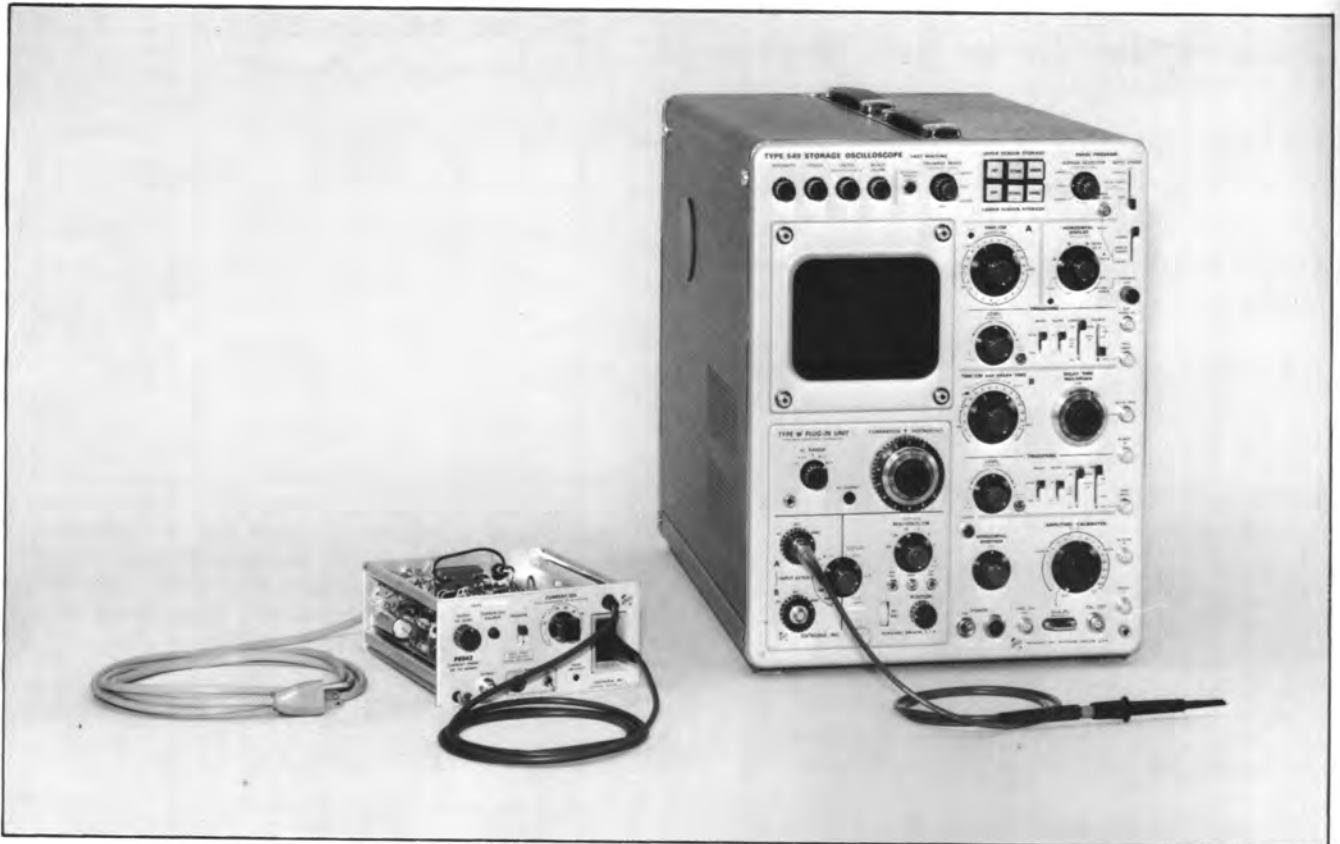

Fig. 6-2. Preliminary test setup.
4. Place the differential comparator plug-in unit in the storage oscilloscope. Connect the 1× probe to the Channel A input. See Fig. 6-2 for preliminary test setup.